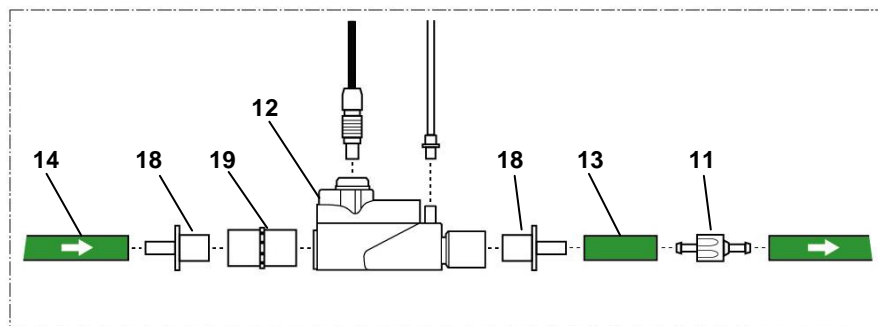

Figure 3 Injector Module Connections
1. Cut the New Natvar tubing (PN 80753) from the Bunnell Life Pulse Disposable Adapters Convenience Pack into two pieces. One approximately 1.2 inches (3 cm) (13) and the other not to exceed 7 inches (17.8 cm) (tubing leftover) (14).
2. Use the two pieces of tubing, adapters (18, 19) and one-way valve (11) to connect the Injector Module (12) to the Life Pulse HFJV Patient Breathing Circuit (see Figure 3 below).